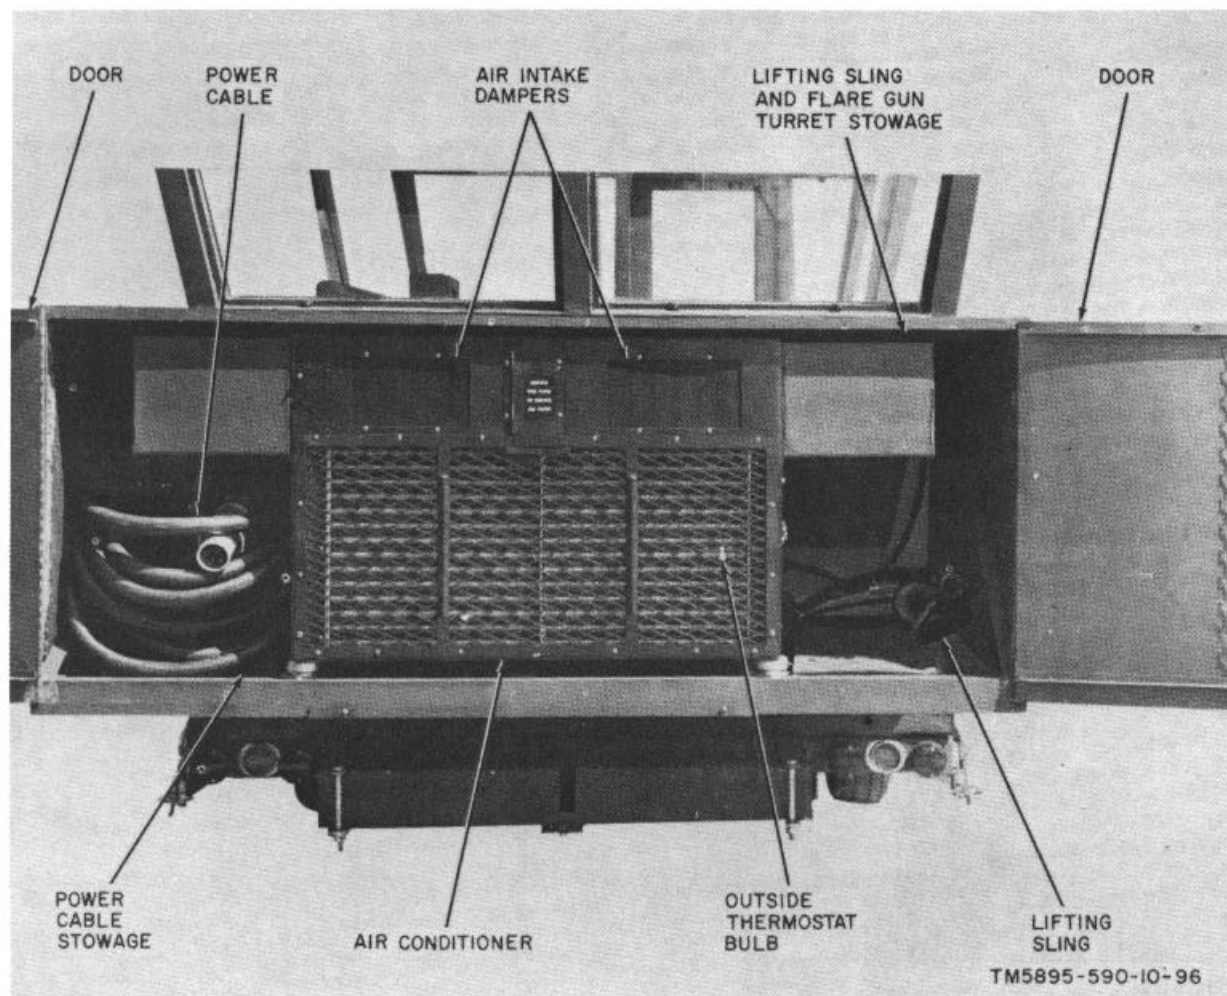

Figure 1-22. Rear view of control tower cab mounted on trailer (air conditioner and storage access doors open).
(5) An air conditioner, a permanent part of the control towers cab, is mounted in a compartment at the rear of the control tower cab (fig. 1-22). Refer to TM 5-4120-259-15 for detailed cover-age of the air conditioner. The compartment also contains storage compartments (fig. 1-22) for storage of the 100-foot power cable, the lifting sling, and the flare gun turret, which are furnished with the control tower cab, and limited spare parts.